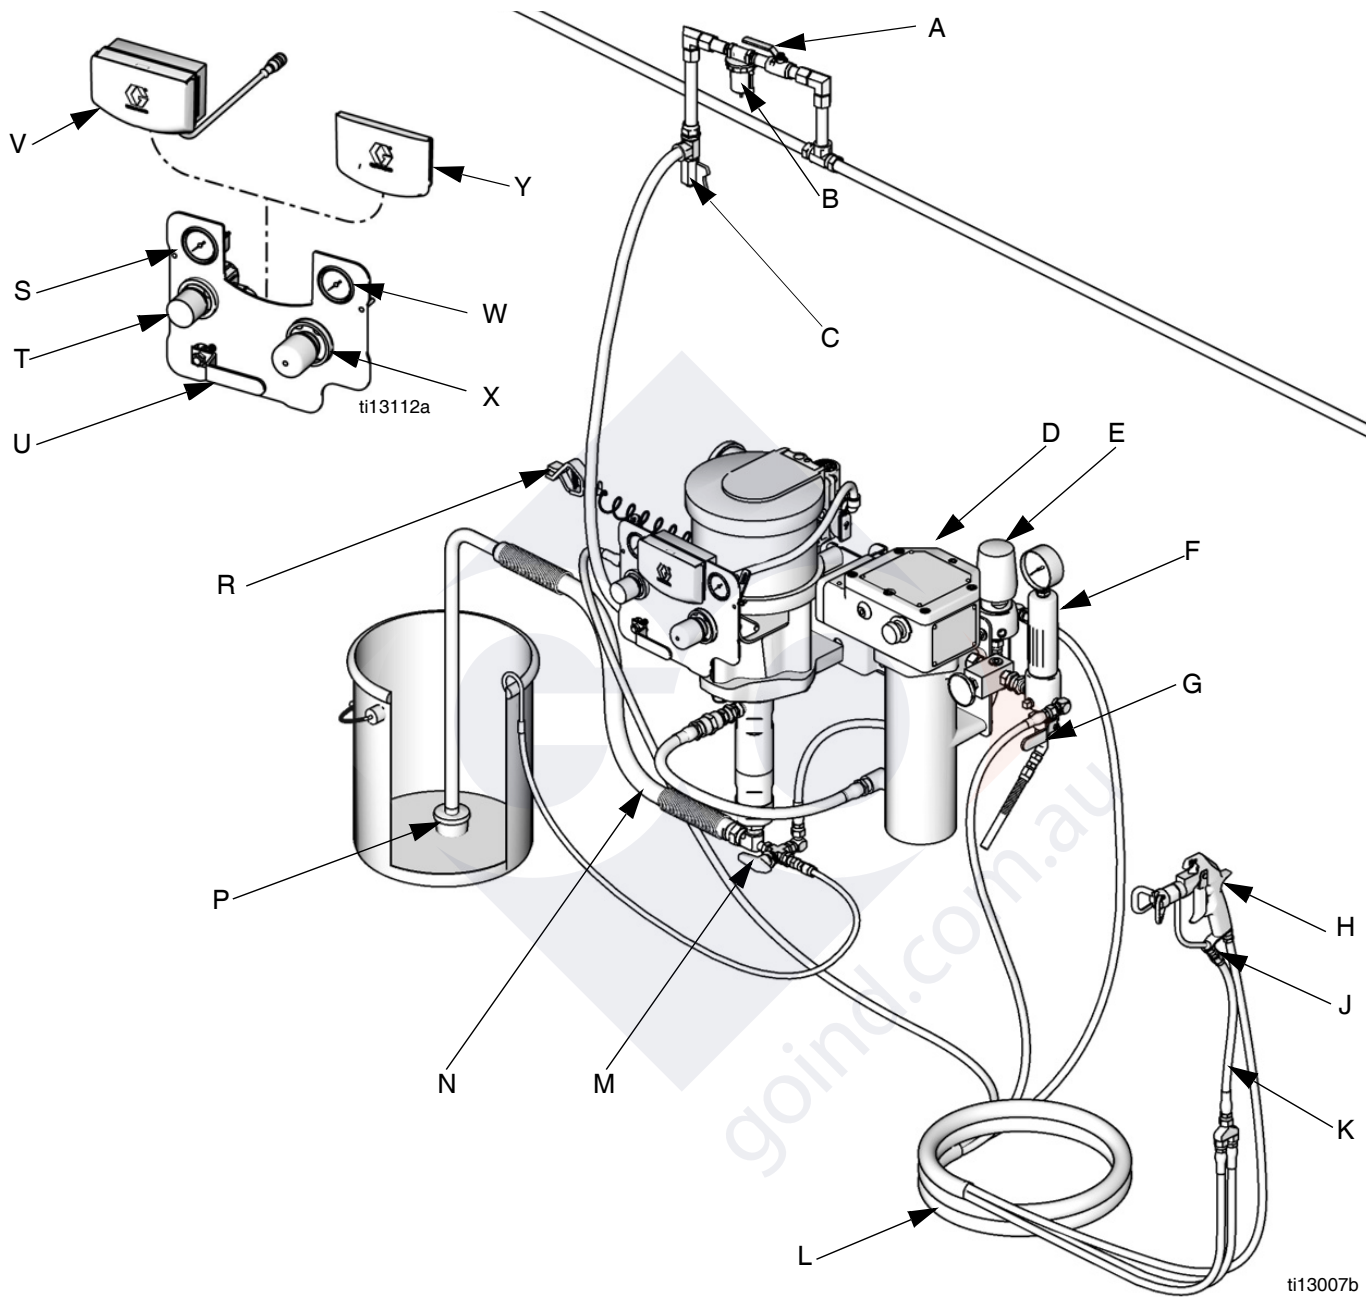

FIG. 1: Typical Installation (Your package may not include all items shown.)
FIG. 1 is only a guide for selecting and installing system components and accessories. Contact your Graco distributor for assistance in designing a system to suit your particular needs.
See FIG. 1. **Components vary by package ordered.**
See FIG. 1, page 9.
2. See FIG. 1. Turn off the bleed-type master air valve (U).